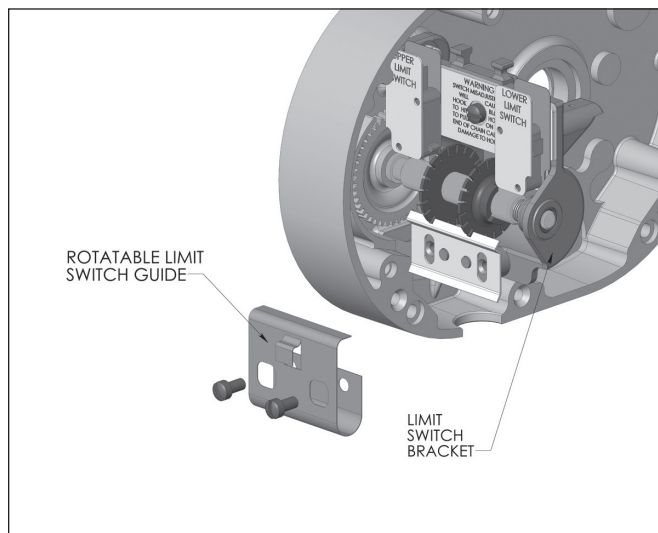

Figure 11A. Rotatable Limit Switches, Models B, C & F
4. Refer to Figure 11A and 12A and assemble the limit switch guide plate to the limit switch bracket. Secure using the 2 screws.